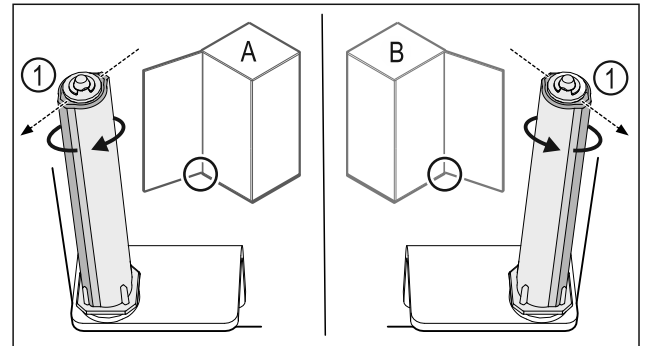

Fig. 49 Left stop (A) / right stop (B)
- Turn the closing system against the resistance until the bridge of the closing system Fig. 49 (1) shows outward.